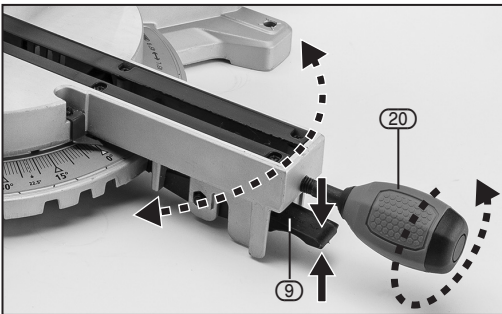

FIG. 6
6.6 MITRE LOCKING ASSEMBLY – FIG.6